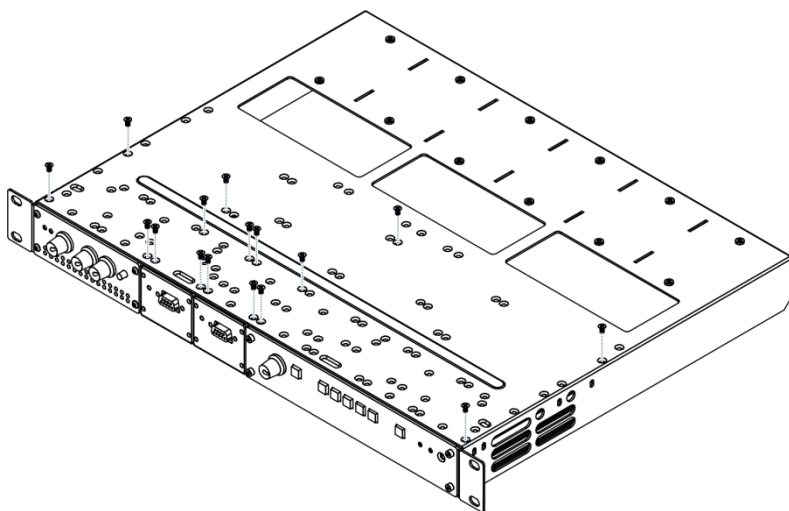

Figure 2: RK-6PS Rack Adapter – Underside
3. Insert and the appropriate amount of screws through the holes on the **RK-6PS** that correspond to the holes on the underside of the **907xl**, using the M3x5 screws supplied with the device (as illustrated in Figure 2).